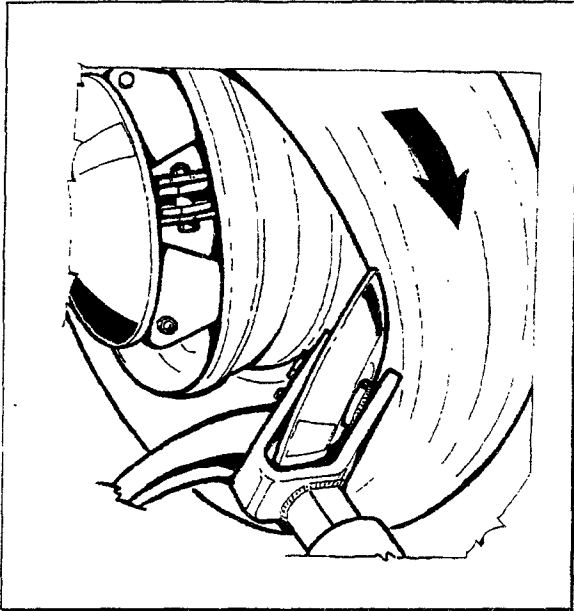

Fig.21
7. Continue rotating the chuck, moving toolholder carriage towards the outside until the beads are demounted from the rim (Fig.21 and Fig.22)